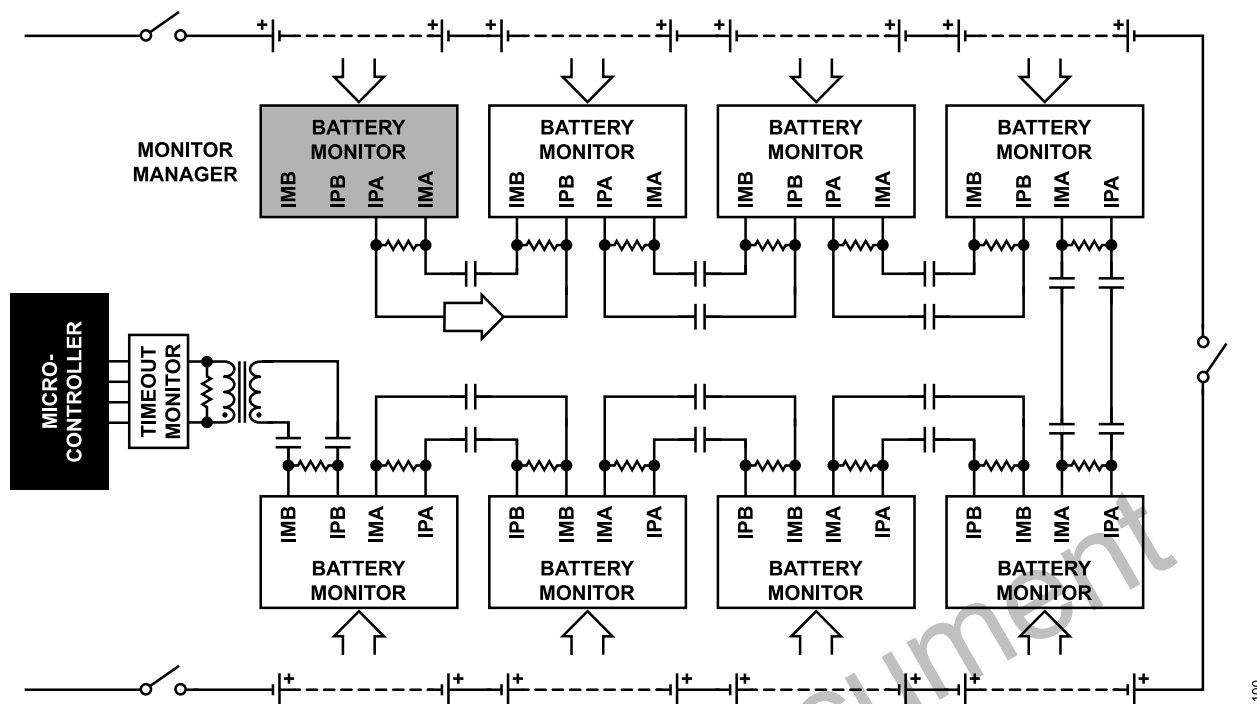

Figure 19. Basic LPCM System Configuration
An LPCM chain consists of a monitor manager (MM), one or more monitors, and a timeout monitor (TM), as shown in Figure 19. The ADBMS6830B can be configured to perform any of those functions, although in many systems an ADBMS6821 (single) or ADBMS6822 (dual) isoSPI transceiver is used as the timeout monitor.